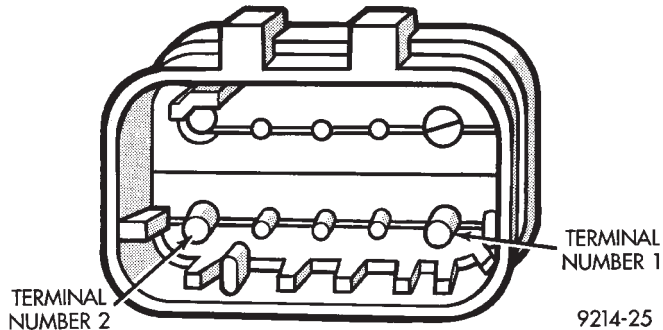

Fig. 1 Injector Harness Connectors
- (c) Connect a jumper wire to ground terminal Number 1 of the injector harness (Fig. 1) to engine ground.
(d) Connect a jumper wire to the positive terminal Number 2 of the injector harness (Fig. 1) and touch the battery positive post for no longer than 5 seconds. This releases system pressure.